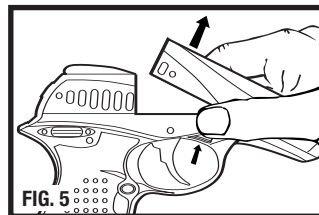
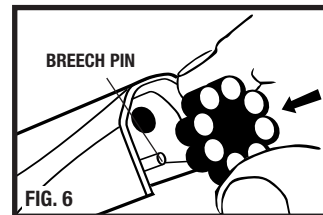

FIG. 5
FIG. 6
1. Open breech of pistol by depressing barrel housing latch. Rotate the barrel housing downward at the muzzle end to open the breech (Fig. 5).
Step 2. LOAD Open breech of pistol by depressing barrel housing latch. Rotate the barrel housing downward at the muzzle end to open the breech (Fig. 5). Insert a loaded clip fully into breech of barrel so that hole in center of clip seats onto breech pin (Fig. 6). Close barrel housing.